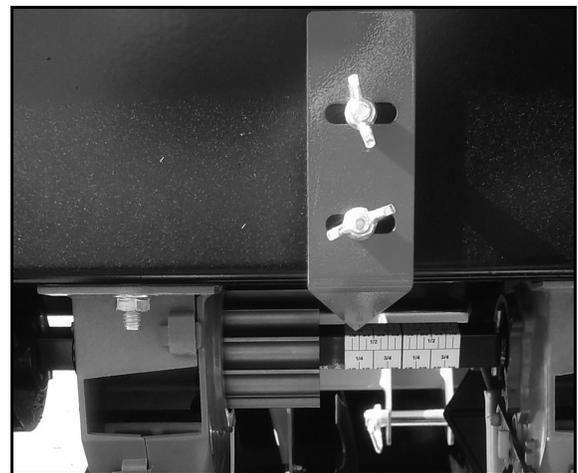
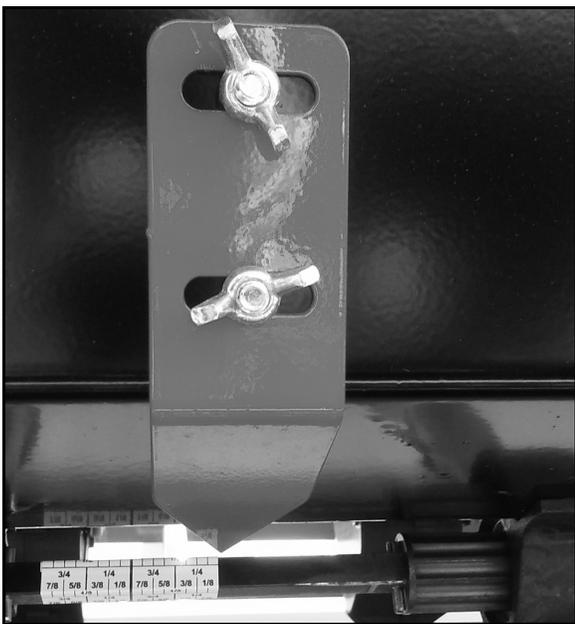

Figure 18. Pointer, Cool Season Box
Figure 21. Pointer, Legume Box
For seed rate adjustments, zero (0) indicates a closed seed cup while 1-7/8 indicates a fully open Cool Season seed cup (Figure 18); 1-3/16 indicates a fully open Legume seed cup (Figure 21).